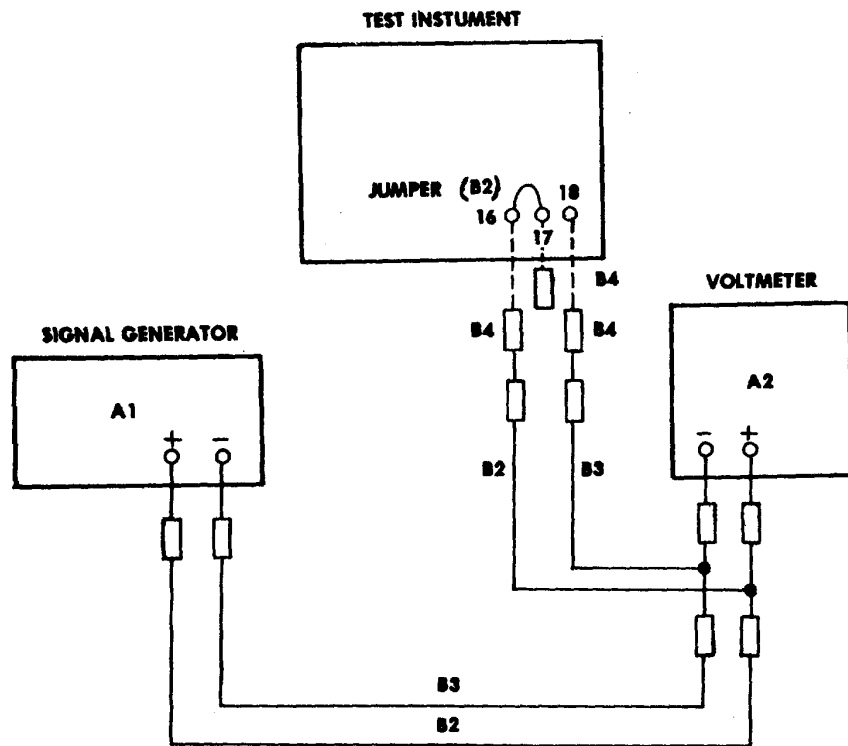

Figure 3. Meter Phase Circuit Equipment Setup
(2) Connect equipment as shown in figure 3.